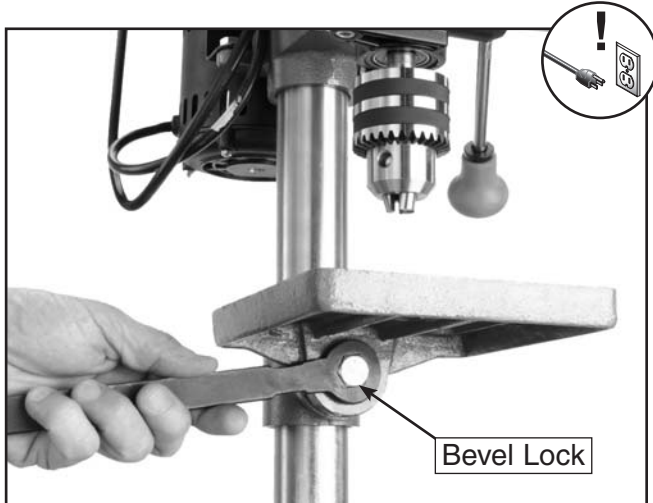
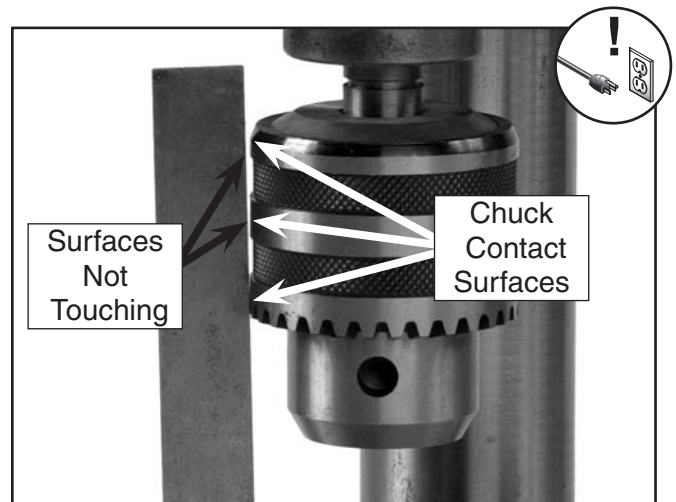

Figure 17. Loosening bevel lock.
Figure 19. Chuck contact surface and square not touching.
1. Loosen the bevel lock (**Figure 17**).
4. If one or more chuck contact surfaces do not touch the square, as shown in **Figure 19**, loosen the bevel lock (**Figure 17**) and adjust the table angle.